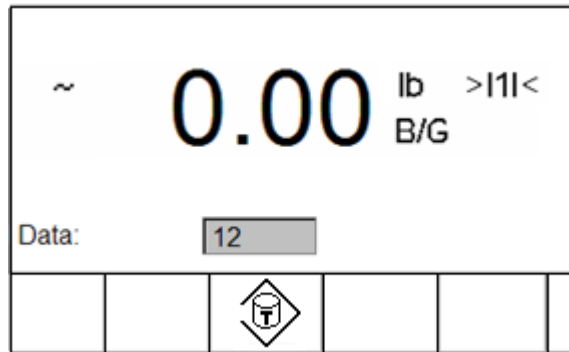

Figure B-3: Data Entry Screen
1. Enter the one-, two- or three-digit ID for the container tare that is to be used. The data entry screen displays as shown in Figure B-3.